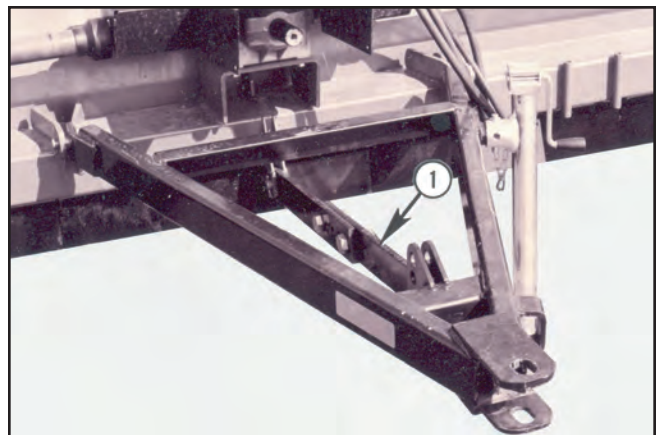

FIGURE 39 PHOTO NO. 3555A
Trailing shredders have an adjustable hitch height adjustment (1) to match various tractor drawbar heights. Refer to Figure 39.